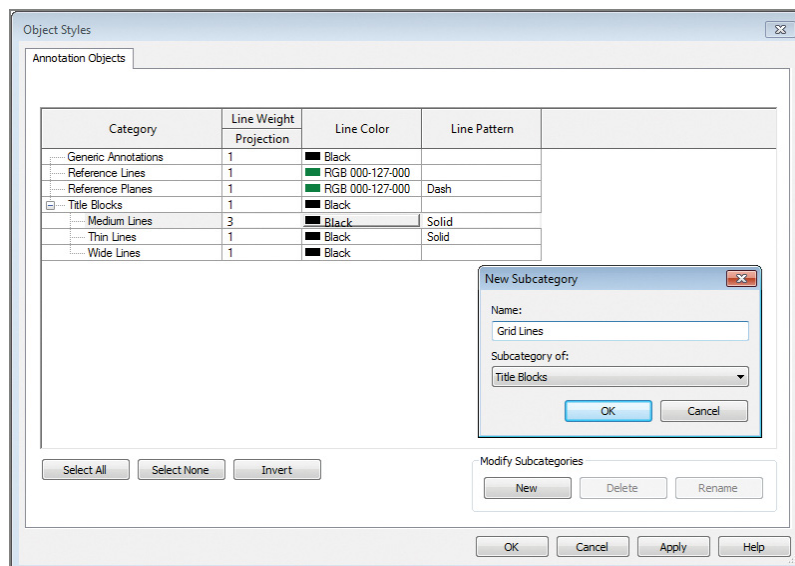

FIGURE 6.28 Adding a new subcategory
2. Go to the Manage tab's Settings panel, and click Object Styles. When the Object Styles dialog box opens, click New under Modify Subcategories. Use the New Subcategory dialog box to create a new line called **Grid Lines**, as shown in Figure 6.28. From the Subcategory Of drop-down, select Title Blocks. Then click OK.